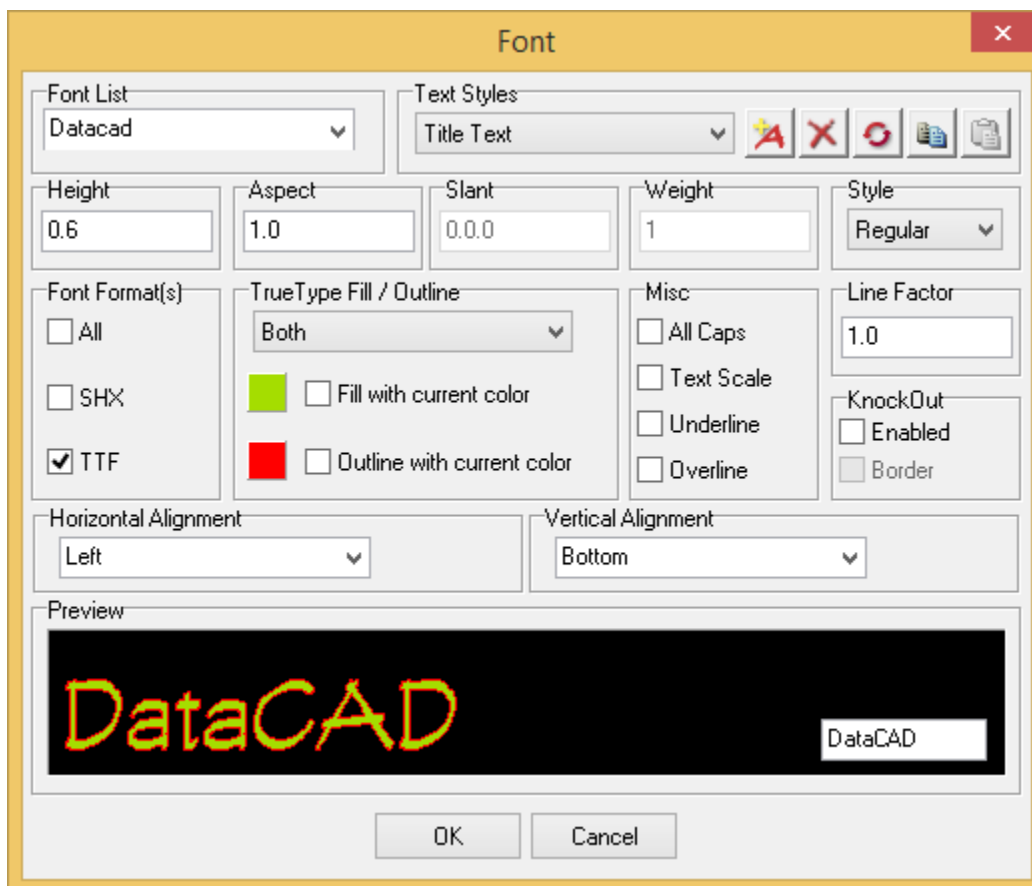

Figure 13.12: Control the appearance of TrueType fonts
2. Type something in the small box at the lower right corner of the Font Preview area. For example, in Figure 13.12, HapPenInc is the name of the company that manufactures pens. The larger display shows what the text will look like, depending on the font you highlight in the Font List section of this dialog box.